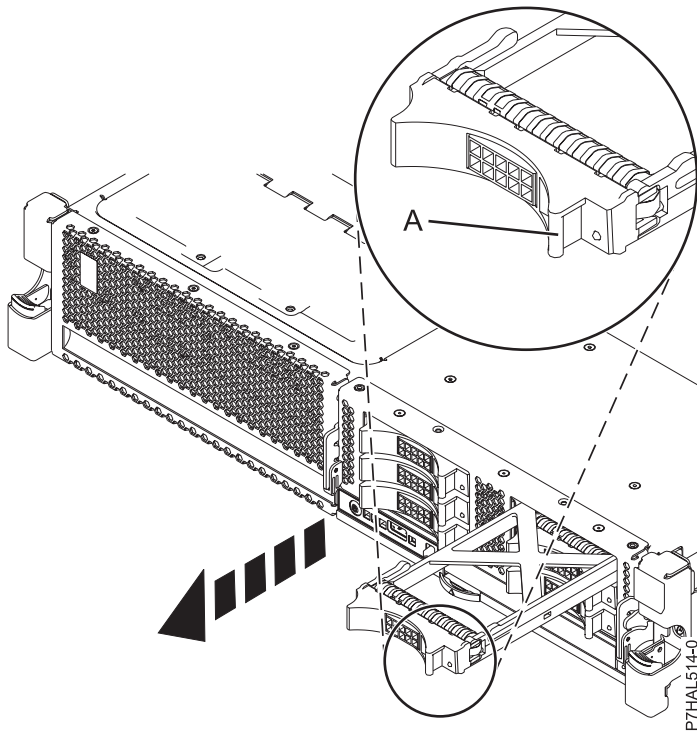

Figure 26. Removing a disk drive filler
3. Hold the filler handle **(A)** and pull out the disk-drive filler from the slot, as shown in Figure 26 on page 46.